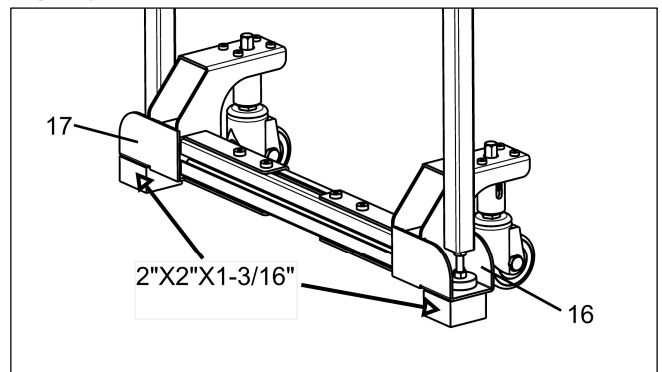

Fig.21
b. Place the legs of the extension table into the leg support brackets "16" and "17", and position a 2"x2"x1-3/16" wooden block under each leg. (see **Fig.21**)